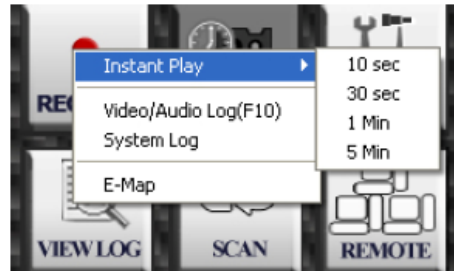

Figure 6.1 – ViewLog Instant Play Options
- III. On the next box, select the Video/Audio Log(F10) option (Figure 6.1).